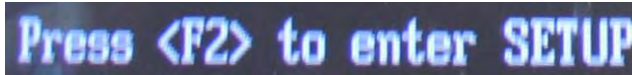

Figure 1-100. F2 to Enter Setup
2. When the computer restarts, press the **F2** key as directed by the boot-up sequence (Figure 1-100).